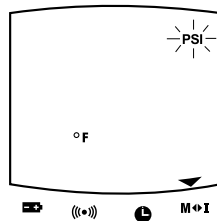

Figure 13
3. The PSI or BAR symbol starts to flash (figure 13). Press the left or right button to change. Press both buttons to accept.